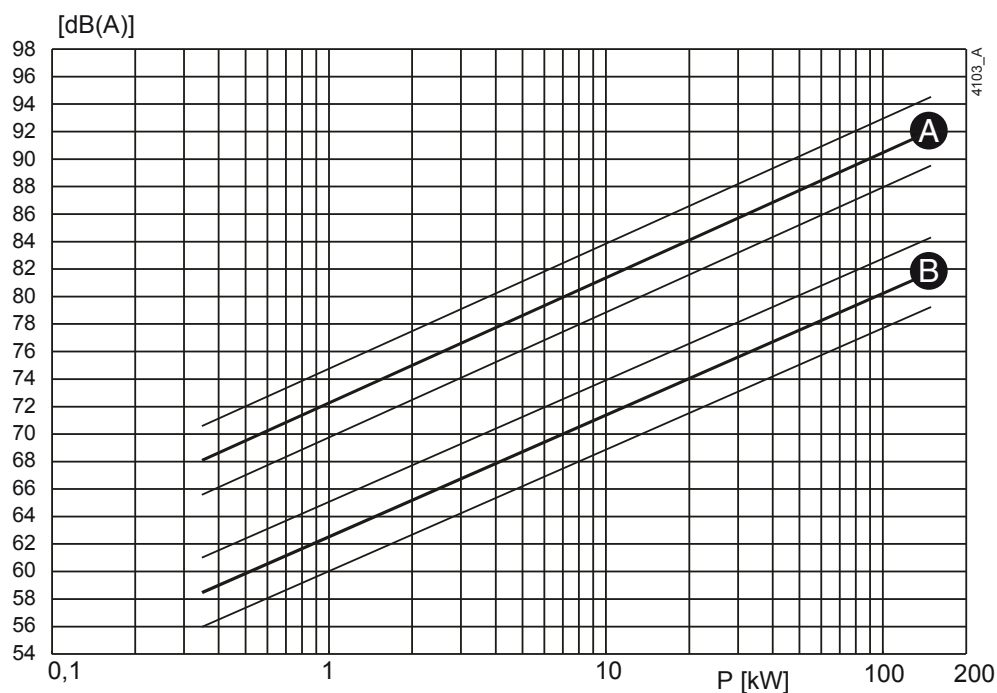
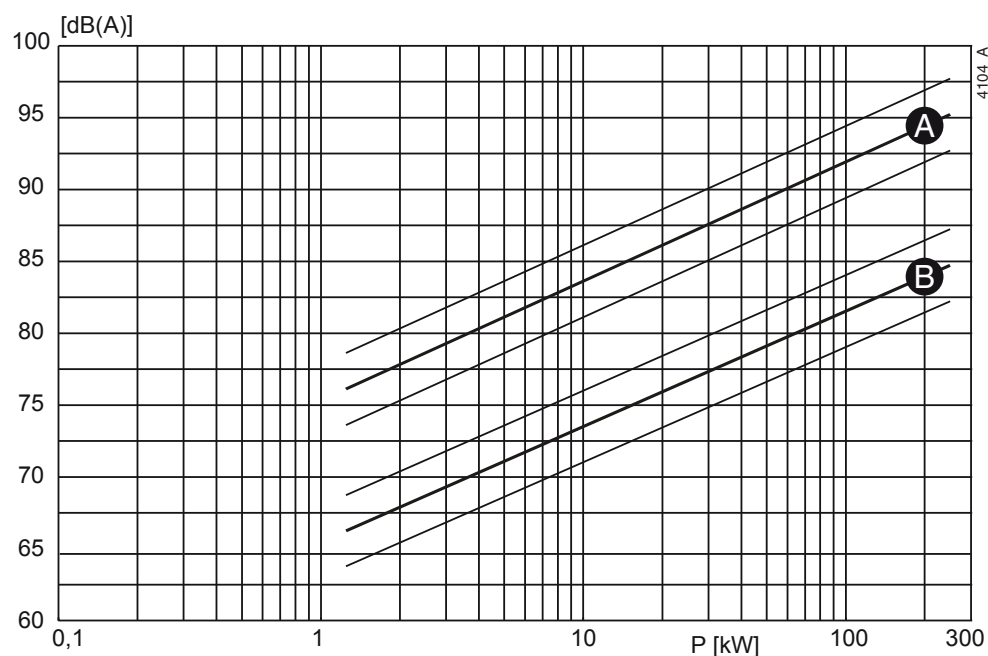

Figure 27: Noise level as function of pump power [kW] at 1450 min^{-1}
Figure 28: Noise level as function of pump power [kW] at 2900 min^{-1}
- 1 Determine the noise level (L1) of the pump, see figure 27 or figure 28.